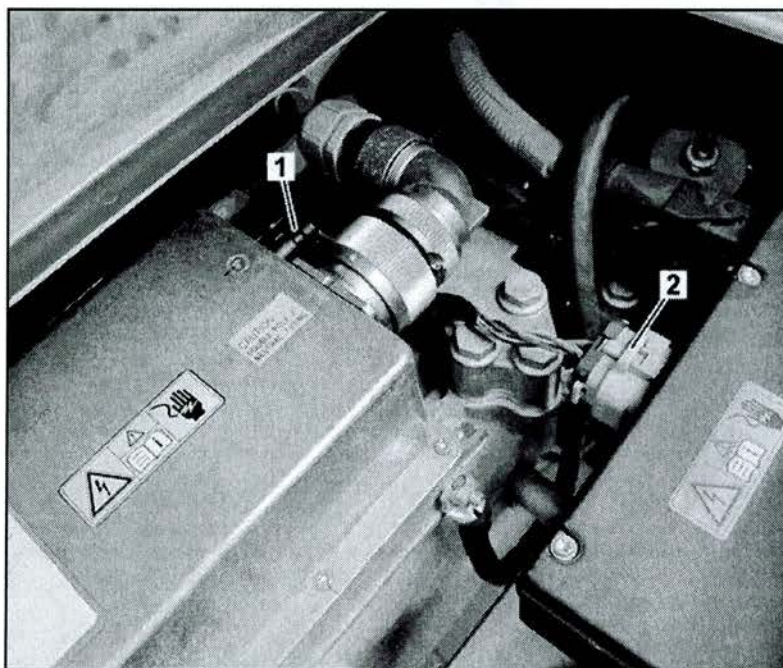

Figure 1. Connector Images
2. Unplug low-voltage (12V) connectors on the control unit side from SCCU (Figure 1) (2) and OnBoard chargers (Figure 1) (1).
4. After successfully updating, connect the low-voltage (12V) connectors to SCCU (Figure 1) (2) and OnBoard chargers (Figure 1) (1) again.